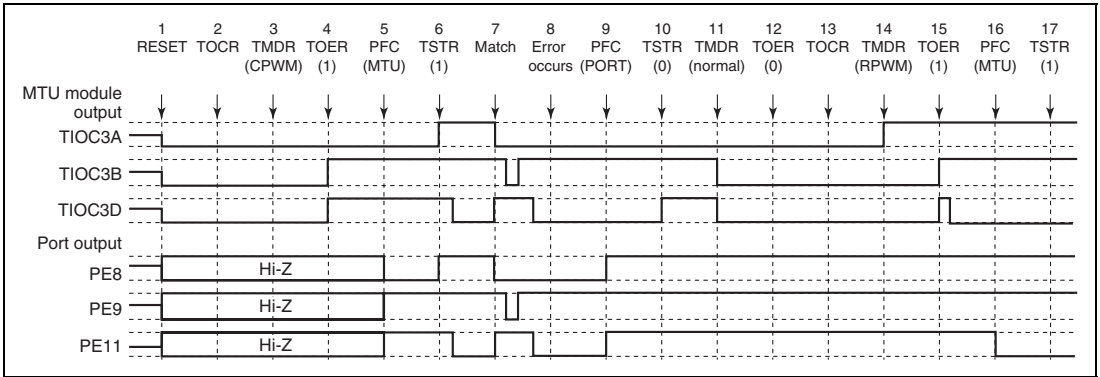

Figure 8.108 Error Occurrence in Complementary PWM Mode, Recovery in Reset-Synchronous PWM Mode
(25) Operation when Error Occurs during Complementary PWM Mode Operation, and Operation is Restarted in Reset-Synchronous PWM Mode: Figure 8.108 shows an explanatory diagram of the case where an error occurs in complementary PWM mode and operation is restarted in reset-synchronous PWM mode.